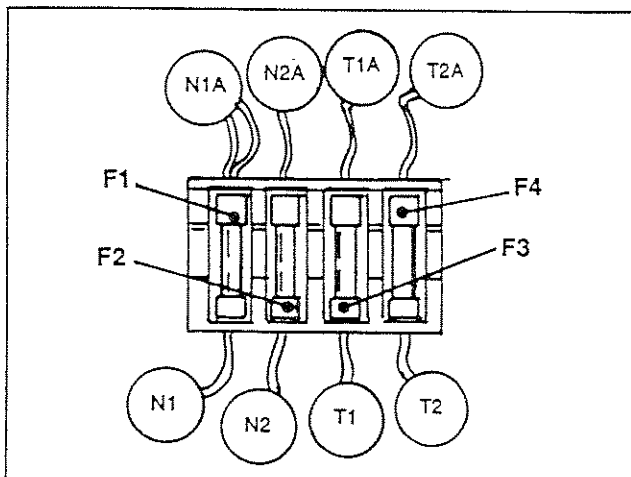

Figure 5. Fuse Holder and Fuses
3. See Figure 5. Remove fuses F1 and F2 from the fuse holder.